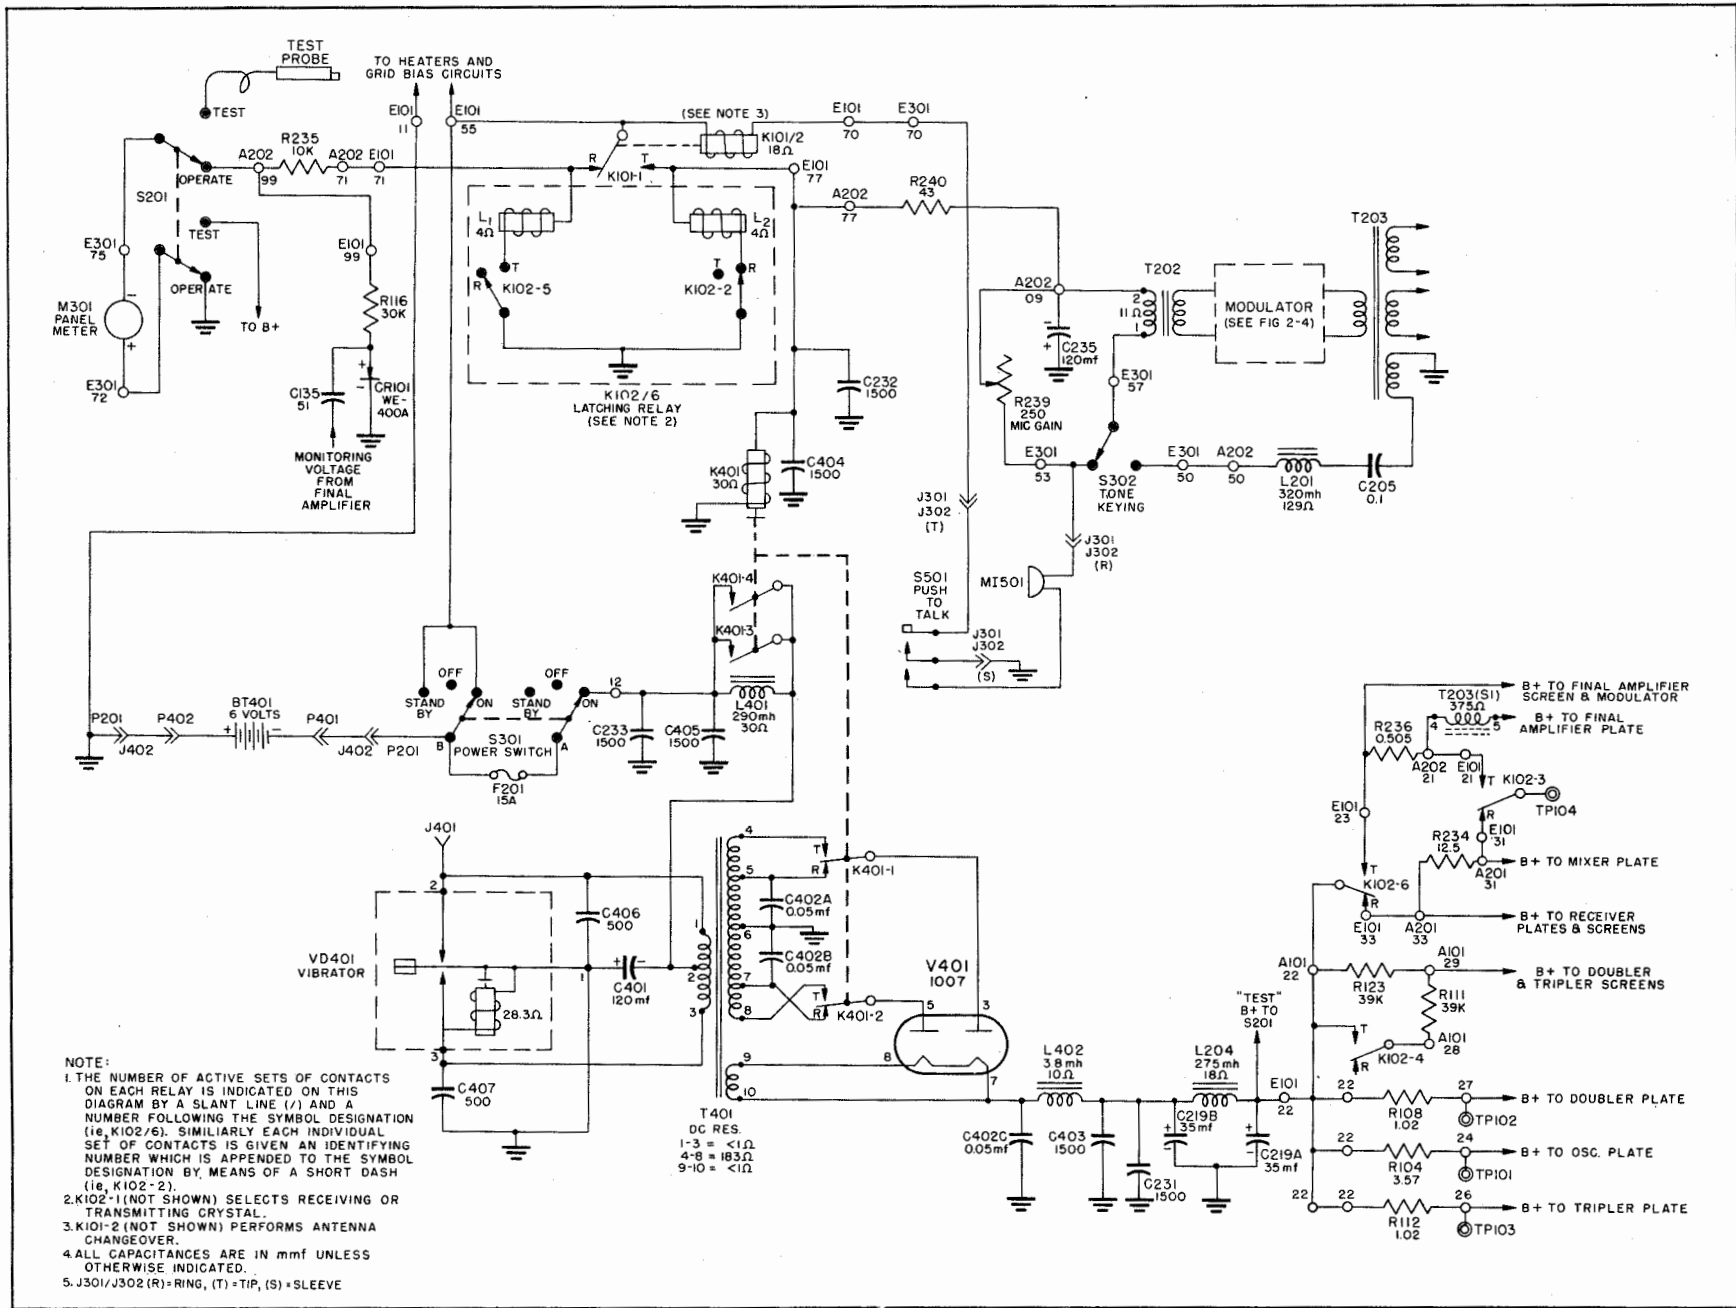

Figure 2-2.—Power and Control Circuits: Schematic Diagram.
#### 3. POWER AND CONTROL (See Figure 2-2).
Latching relay K102, relay K401, and relay K101 operated by the push-to-talk button in the microphone cord, perform all functions necessary to transfer the entire equipment from the receive to transmit status. Reference to figure 2-2 and the following text will provide a ready understanding of their operation.
(See also Figures 2-2 and 7-20)
junction with crystal rectifier CR101 and multiplier R116 to read relative power output when transmitting. As shown in figure 2-2, K101-1 disconnects the battery from the meter circuit under transmit conditions.
**4. VIBRATOR POWER SUPPLY (See Figure 2-2).**
With the battery disconnected from the vibrator circuit, the vibrator reed is midway between its two contacts, touching neither. However, upon turning on Main Power Switch S301, the vibrator magnet coil is energized through L401 and the lower half of the primary of T401 (see figure 2-2). The magnet coil now pulls the reed into contact with the lower contact point, causing a surge of current through the lower half of the T401 primary. Simultaneously, the magnet coil is short-circuited and hence deenergized by the reed and contact point. Inertia carries the reed into contact with the upper contact point causing a surge of current through the upper half of the T401 primary. The magnet coil is again energized upon the return swing of the reed and the cycle repeats itself.